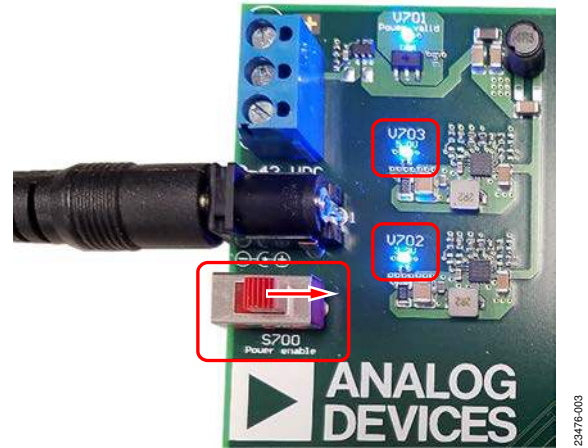

Figure 3. Power Switch in ON position and 5V and 3.3V LEDs
2. Switch the Power Enable switch on the baseboard to the ON position, as shown in Figure 3. The 3.3 V LED (V702) and the 5.0 V LED (V703) illuminate blue.